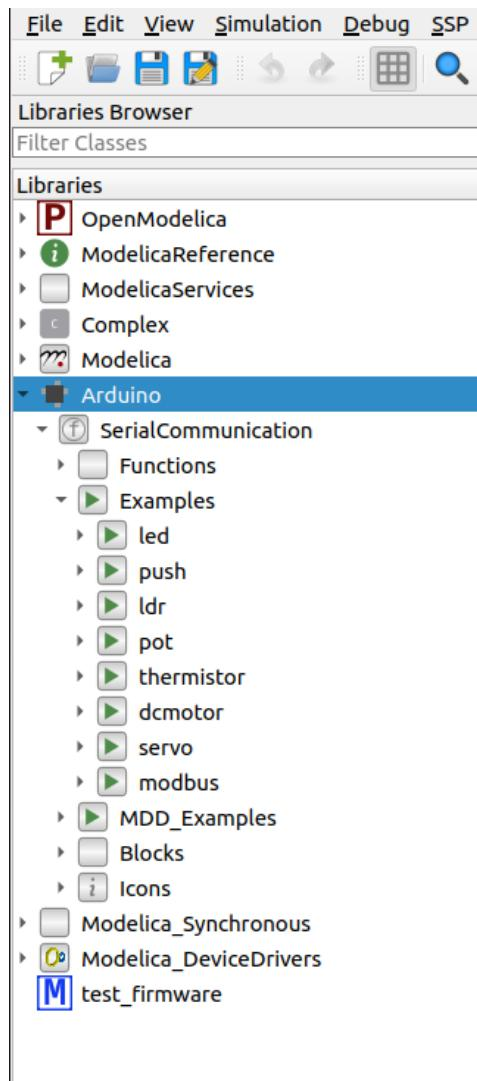

Figure 3.44: Examples provided in OpenModelica-Arduino Toolbox
6. Now, we will locate the models for running the experiments in the upcoming chapters. Under Libraries Browser, click on the arrow before Arduino to see the contents inside this package. Next go to SerialCommunication -> Examples. Under Examples, you will find the list of experiments like led, push, etc., as shown in Fig. 3.44.